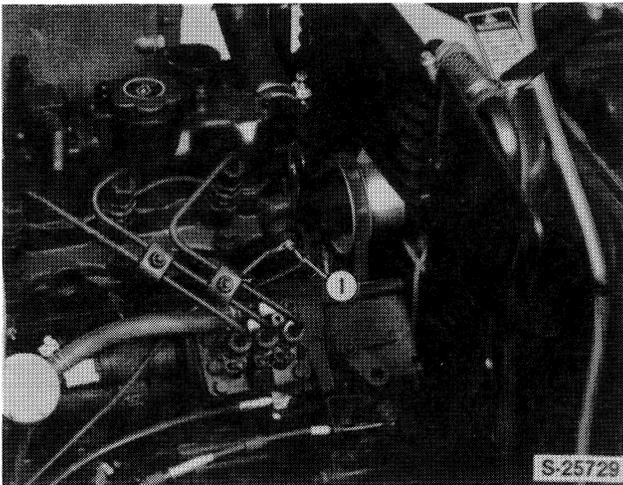

Figure 31
3. Install the oil pressure switch (1), Figure 31.